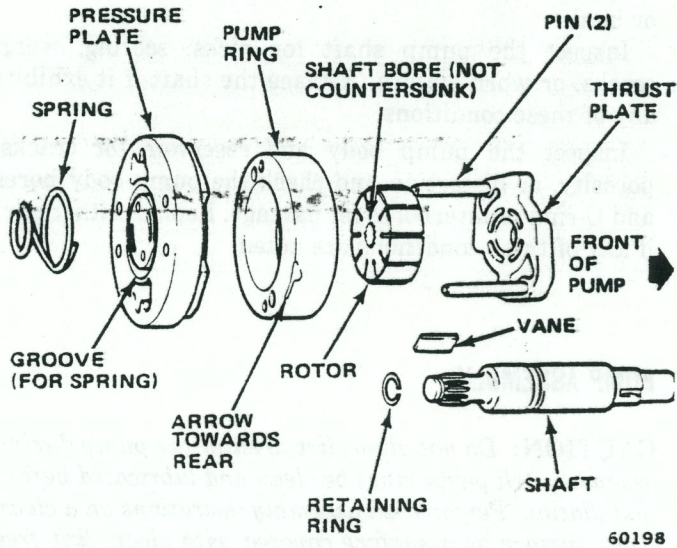

Fig. 2L-57 Pump Shaft Assembly Sequence
(5) Assemble pump shaft, thrust plate, and rotor. Insert splined end of shaft through thrust plate and rotor and install shaft snap ring (fig. 2L-57). Do not overspread snap ring. Open it only enough to install it.
(6) Install assembled thrust plate, rotor, and pump shaft in pump body bore.